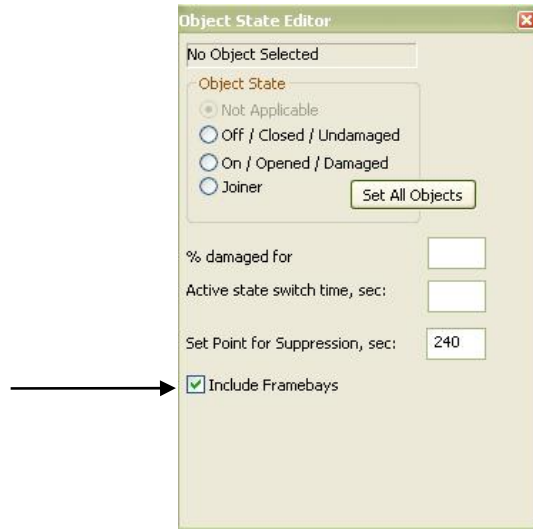

Figure 3.6 Including Framebays in the Object State Editor
Step 6: In the object state popup window (Figure 3.6), check the *Include FrameBays* box. This currently applies only to the Confined_Space.